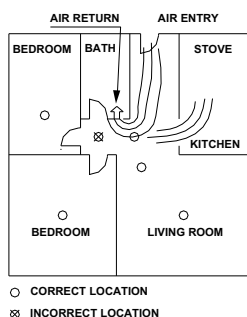

Fig. 4 – Dead-air areas
- In other dead-air areas, where ventilation systems cause airflow that would not pass through the smoke sensing chamber. Also avoid airflow from areas where normal combustion articles are expected, such as kitchens. Refer to Fig. 4, which indicates the correct and incorrect alarm locations.